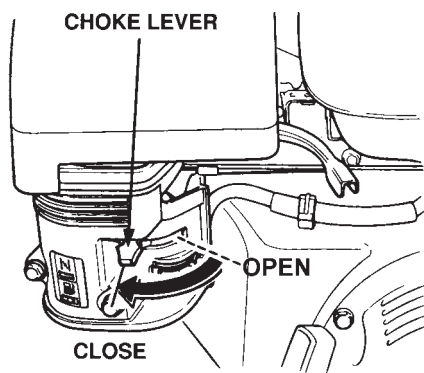

Figure 25. Engine Choke Lever
- Place the *Choke Lever* (Figure 25) in the "OPEN" position
- If the engine has started, slowly return the choke lever (Figure 25) to the **CLOSED** position. If the engine has not started repeat steps 1 through 5.